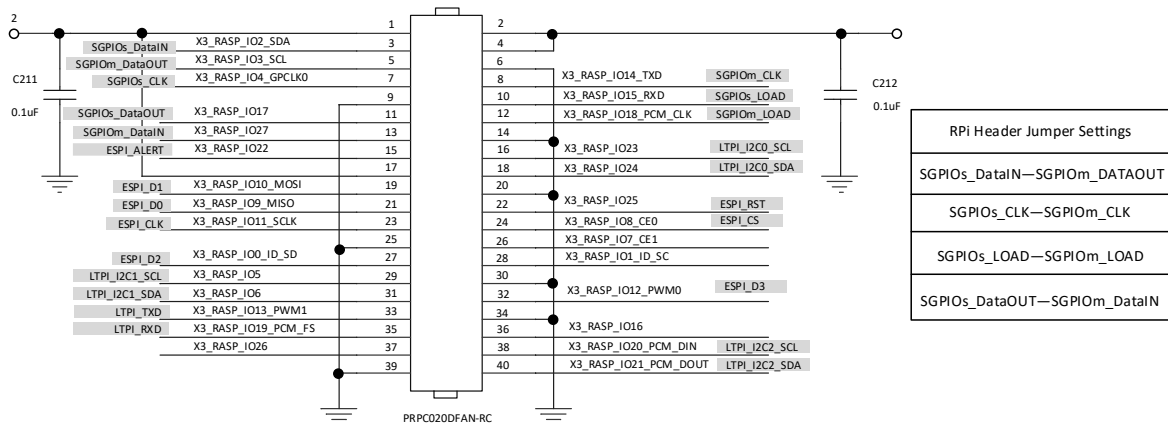

Figure 6.20. RPi Header Jumper Settings
1. Connect the jumpers for RPi Header, as shown in Figure 6.20.